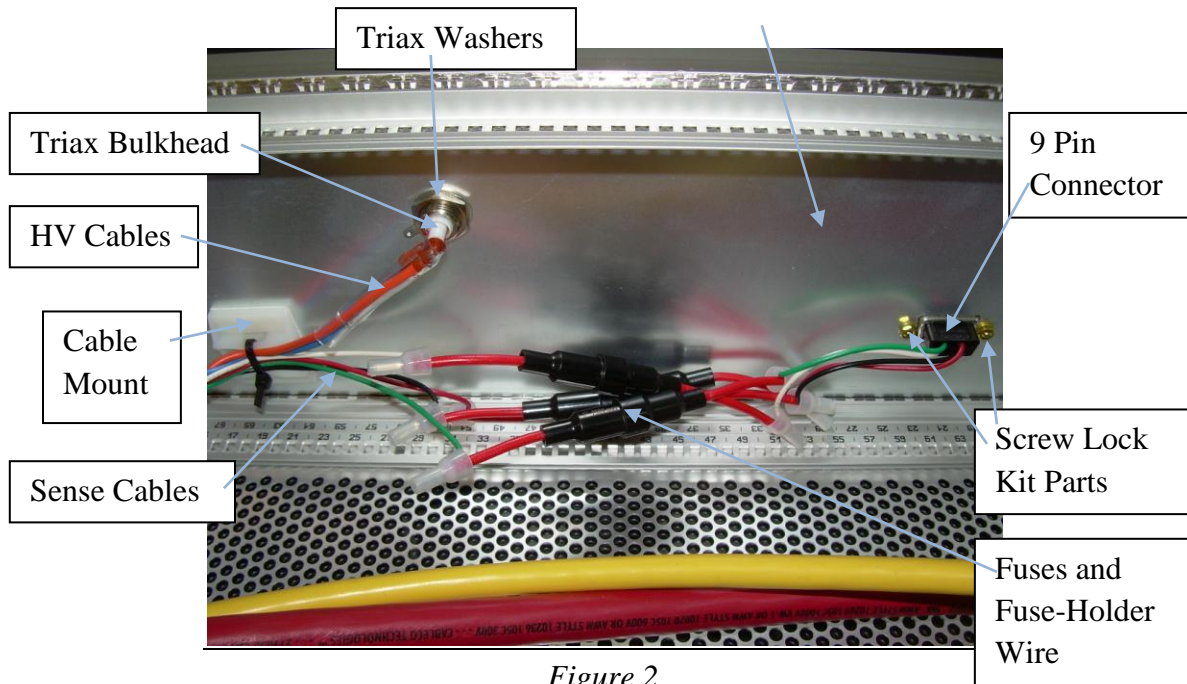

Figure 2
1. Peel off the backing of two mounting cradles (P#: MCNY-1250-9-C, Thomas & Betts) to reveal the adhesive. Place one of these cradles about 10cm towards the right side of the box (the side with the marine connectors) from the high voltage cable slot, and place the other as parallel as possible to the backplane on the side panel. When inserting the sense cables below, make sure all 4 are cable-tied to the first cradle, and that the red and green sense cables are cable-tied to the second cradle. Refer to Figure 2.
10. Attach the remaining end of each of the sense cables to the box itself by pushing them into the 9 pin connector (P#: 205203-3, Tyco), located on the back panel, until they snap in securely. The cables should be inserted such that the green cable is in slot 2, the red cable is in slot 4, the white cable is in slot 6, and the black cable is in slot 9. Refer to Figure 2.
3. Attaching HV to the backplane. On the remaining 0.3cm stripped end of the orange 18AWG and blue 22AWG cables, crimp a gold plated connector pin (P#: 1-770988-0, Tyco). Place the orange cable with the pin crimped on the end in the topmost slot of a 3 pin connector (P#: 172166-1, Tyco) and the blue cable with the pin crimped on the end in the bottommost slot of the same connector. Attach this 3 pin connector to its corresponding female connection on the backplane. Refer to Figures 2 and 8.